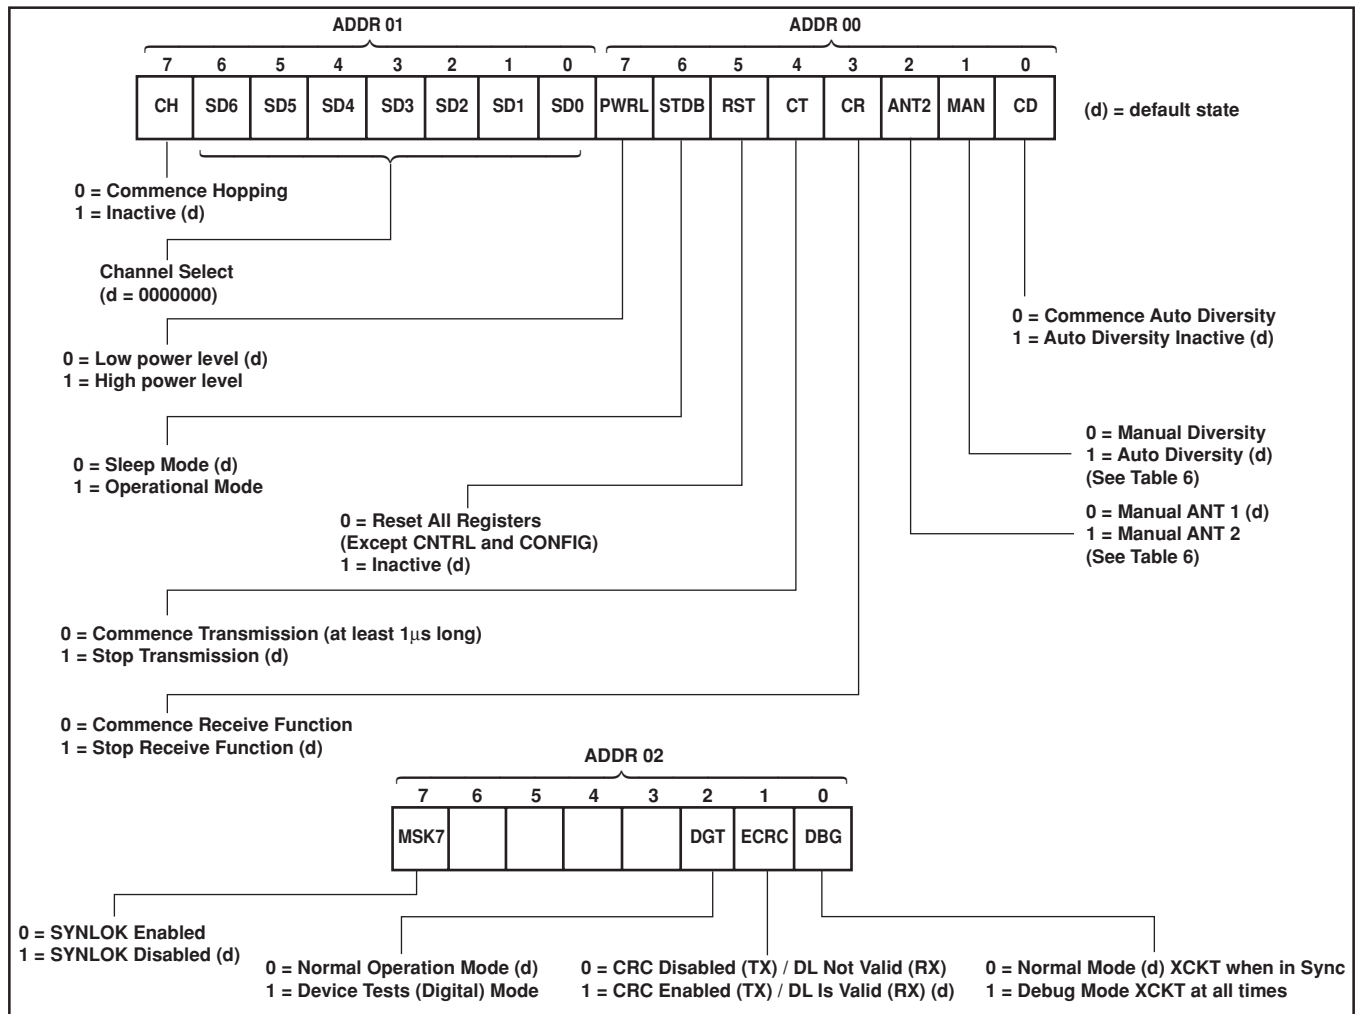
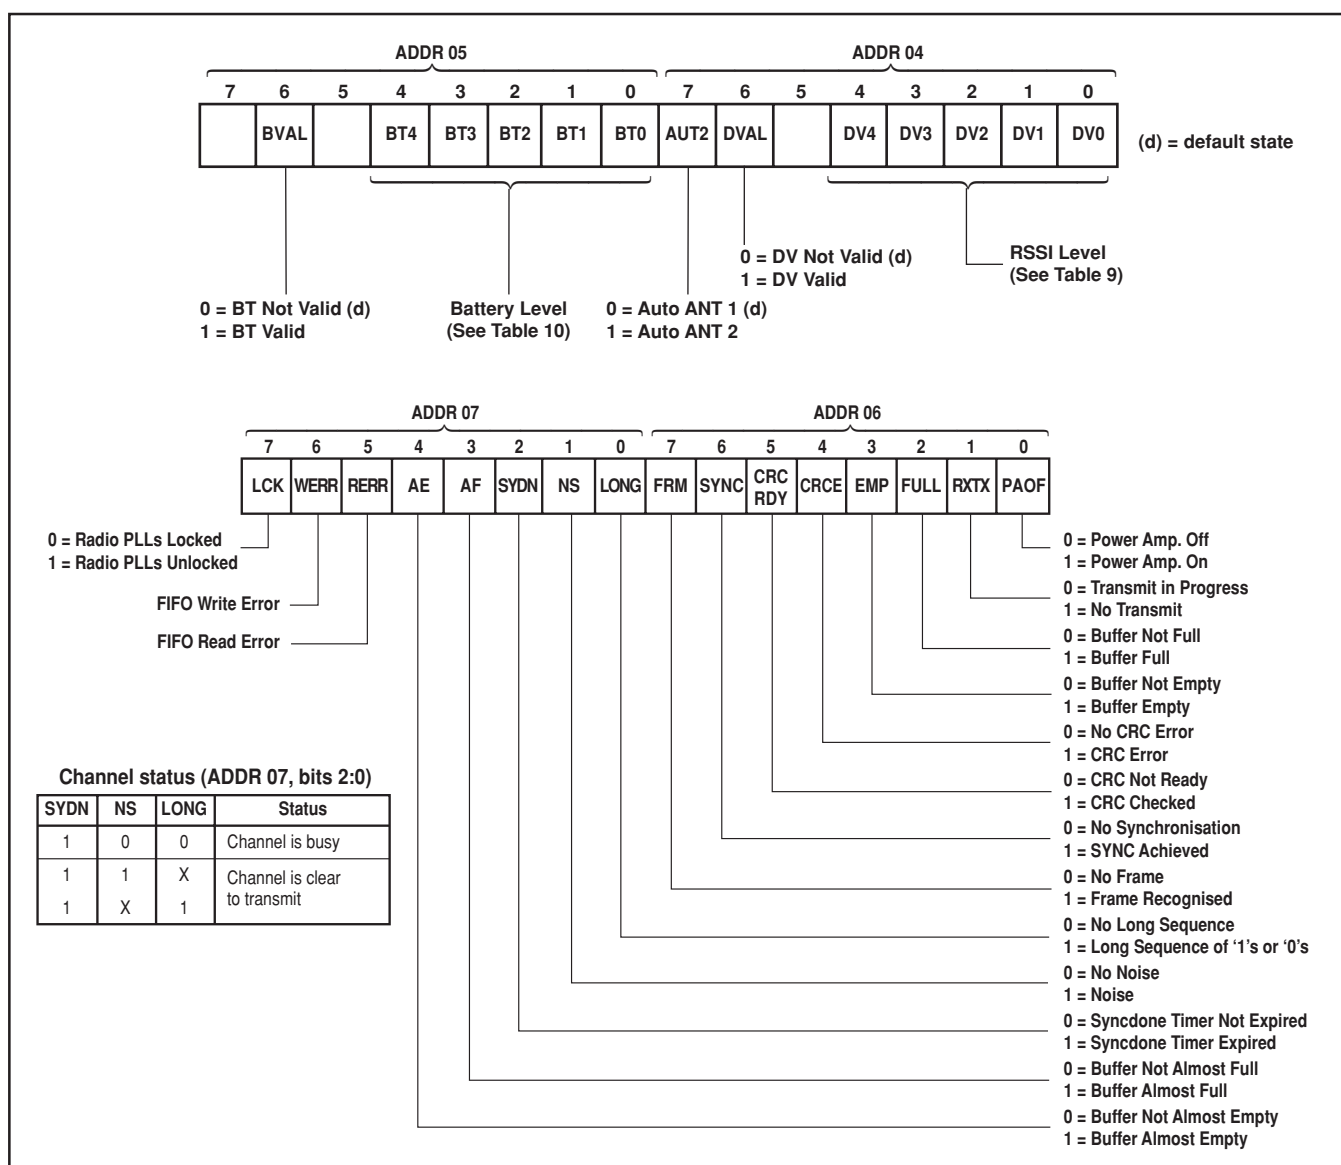
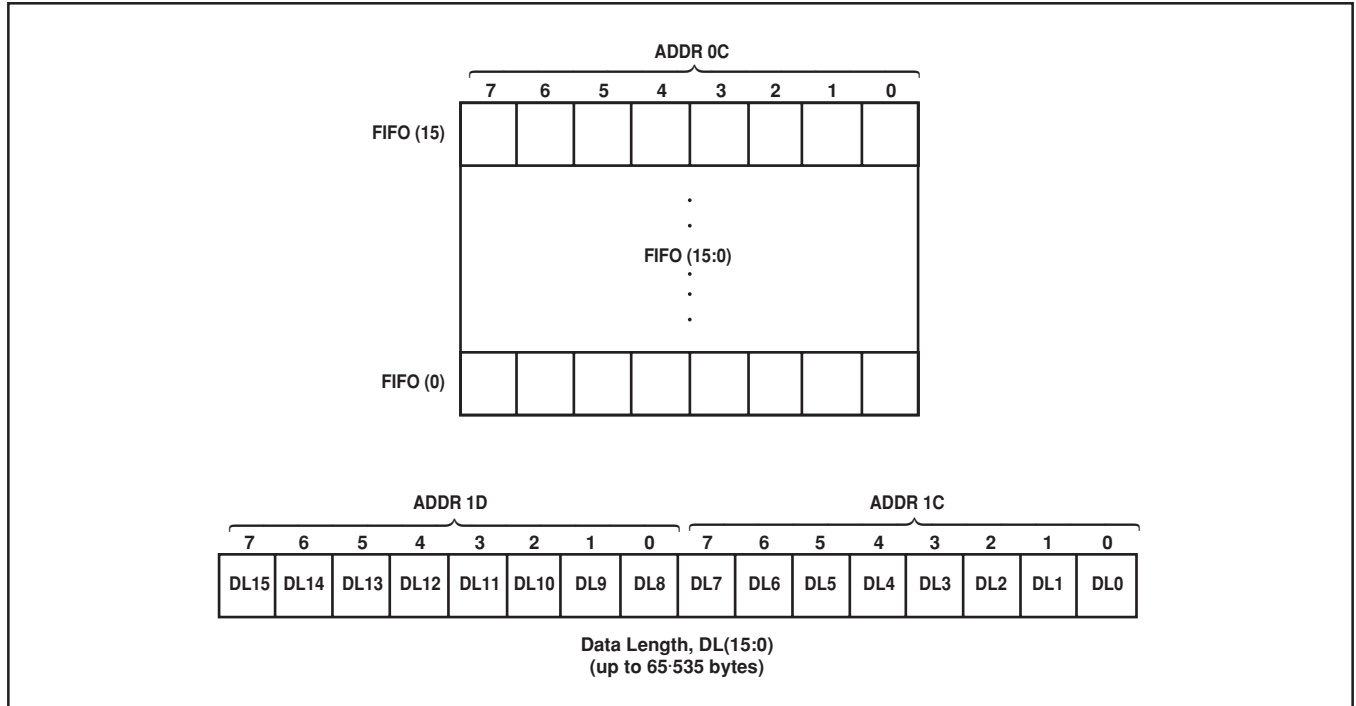
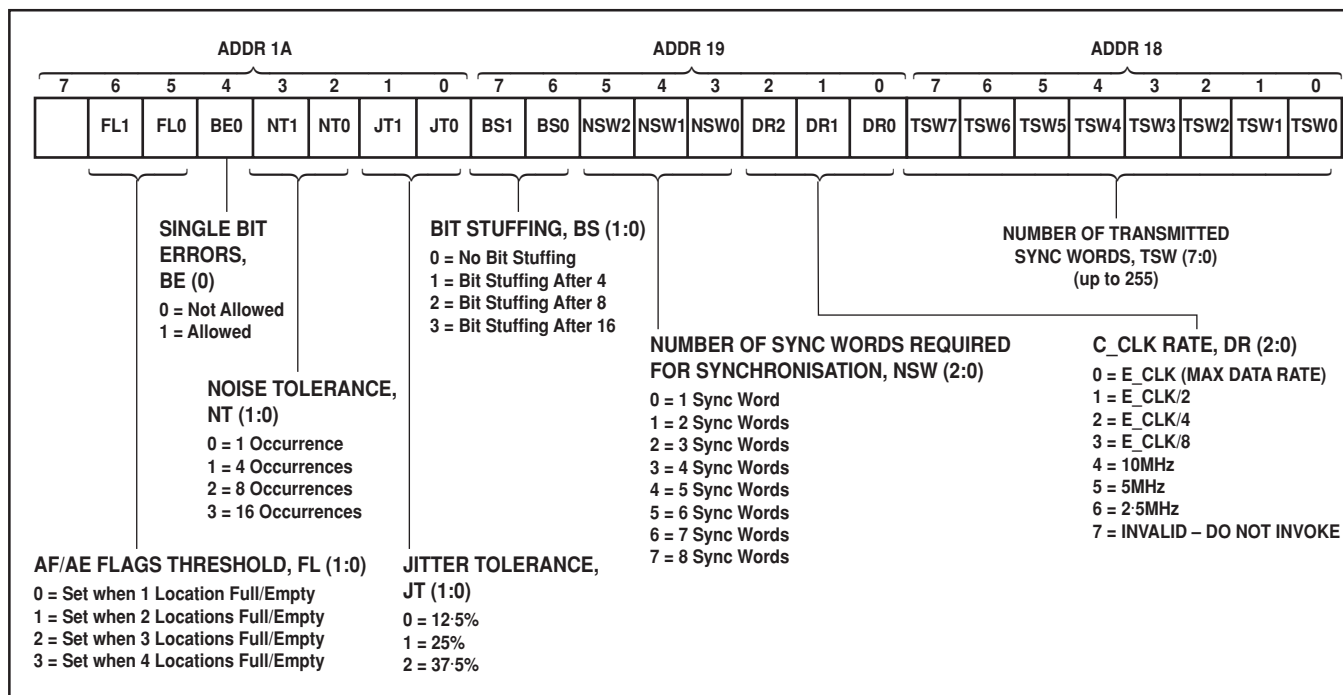

Fig. 5 Control registers (write only)
Fig. 6 Status registers (read only)
Fig. 7 Data register (FIFO) and data length registers (read/write)
Fig. 9 Configuration registers ADDR 18, ADDR 19 and ADDR 1A
The Controller uses the control registers to initiate a particular WL100 function. The bit definitions for the WL100 control registers are shown in Fig. 5.
The status registers are used to inform the Controller about the WL100 and DE6003 status. Fig. 6 shows the bit definitions for the WL100 status registers. The Controller makes the decision about a channel status according to the table in Fig. 6.
Fig. 7 shows the 16×8 receive/transmit FIFO and the data length register. The FIFO buffers the data going to/coming from the Controller and provides an uninterrupted data flow between the WL100 and DE6003 at different data rates and system clock speeds. The data length register is used for the CRC calculations during data receive.
The Controller is responsible for updating the frequency control register (Fig.5, ADDR 01), maintaining minimum time between consecutive transmissions, maximum continuous transmit time, radio standby to transmit time, frequency hopping time for transmit and for receive and timely loading of the data length register (Fig. 7, ADDR 1C and 1D) for the CRC function.
To hop to a new frequency, the CH bit (Fig. 5, ADDR 01, bit 7) has to be set to 0. As a result, a negative LOADB pulse is generated and will load the frequency data SD (0:6) (Fig. 5, ADDR 01, bits 0 to 6) into the DE6003. The Controller does not need to reset the CH bit as the WL100 carries this out as part of the channel select sequence.
To start data transfer, the Controller must set the CT bit to 0 (Fig.5, ADDR 00, bit 4). When all transmit data has been read by the WL100, the CT bit must be reset to 1.
The Bit Stuffing logic examines the data stream to the radio and inserts an altered polarity bit relative to the last bit in a selected bit group. A number of bits in a group can be programmed (see Fig. 9, ADDR 19, bits 6 and 7). The DE6003 requires at least one transition after every 16 bit times at 625kb/s data rate to assure adequate bit error rate performance. Thus, to break long sequences of ones or zeros at 312kb/s, bit stuffing after
The FIFO Control and Flag logic controls data flow through the FIFO. Almost Full (AF) and Almost Empty (AE) flags (Fig. 6, ADDR 07, bits 3 and 4) are programmable by FL 0 and FL1 (Fig. 9, ADDR 1A, bits 5 and 6) and can be monitored by the Controller as well as Read and Write error indication bits (Fig. 6, ADDR 07, bits 5 and 6). A Read error is caused by attempting to read from the FIFO when it is empty; a Write error is caused by attempting to write to the FIFO when it is full.
Full and Empty flags are also provided (Fig. 6, ADDR 06, bits 2 and 3). All bits are set on the negative edge of the C\_CLK clock.
The WL100 performs this optional function if instructed to do so by the Controller (see Fig. 5, ADDR 02, bit 1). CRC is generated according to IEEE-802 standard 32-bit AUTODIN-II polynomial.
During transmit the WL100 does not need to know the user data byte count and will automatically append CRC when the CT bit (Fig. 5, ADDR 00, bit 4) is high and the FIFO becomes empty.
During receive the Controller has to provide the WL100 with the data length information (Fig. 7, ADDR 1C and ADDR 1D) some time before the end of a frame to let the WL100 know when to check CRC.
The Clock Recovery and CCA logic recovers the data clock XCKT from the RXD data stream, provides recovered clock to the Data Recovery logic, and determines if the channel is busy or free to transmit. The WL100 starts recovering clock each time the CR bit (Fig. 5, ADDR 00, bit 3) is set low by the Controller. It must stay low for the whole time of CCA or data receive function.
After the time limit for the synchronisation has expired, the syncdone (SYDN) bit is set (Fig. 6, ADDR 07, bit 2) and interrupt to the controller is generated. At this time the Controller can make a decision about the channel status by examining noise (NS) and long sequence (LONG) bits (Fig. 6, ADDR 07, bits 1 and 0).
Once the sync sequence has been detected, the SYNC bit (see Fig. 6, ADDR 06, bit 6) goes high and remains high until the end of the data reception. The FRM bit (see Fig. 6, ADDR 06, bit 7) goes high when a frame delimiter has been detected and stays on until the end of data reception.
Radio Synthesiser Unlocked interrupt can be disabled by setting the MSK7 bit high (Fig. 5, ADDR 02, bit 7).
The Diversity Controller automatically selects the optimum antenna during receive operations. To start auto diversity, the Controller has to set the auto diversity bit (Fig. 5, ADDR 00, bit 0) low, which has to stay low for at least 1µs, when it can be switched back to high at any time before another diversity function is to be initiated. The circuit performs diversity by comparing the Receive Signal Strength Indication (RSSI) energy levels from both antennas and selecting the one which yields the higher level.
The Diversity Switch can also be controlled manually (Fig. 5, ADDR 00, bits 1 and 2). The RSSI level can be checked at any time by auto operation of the diversity (see Fig. 6, ADDR 04).
The Battery Monitor (input  $V_{BAT}$ ) allows relative estimation of the remaining operating time for the user in battery-powered applications. Both the Diversity Controller and the Battery Monitor use as an input a digital representation of analog RSSI and battery voltage levels from the 5-bit successive approximation ADC. The Battery Monitor status register value is updated whenever an auto diversity function is performed (Fig. 6, ADDR 05).
the WL100 (C10MHz clock from the CLK RCV or E\_CLK from an external clock oscillator). It supplies the system clock B\_CLK for the Controller, C\_CLK clock for the Clock Recovery and CCA logic, and CK400N and CK800N clock for the Diversity Controller and the Battery Monitor. Fig. 14 shows the details of the Clock Selector/Generator logic. For DR(2:0) bit settings see Fig. 9, ADDR 19, bits 2:0. Note that, for correct operation, the Receive/Transmit state machine, the Diversity Controller and the Battery Monitor require 10MHz clock. So even if an external oscillator with a clock rate other than 10MHz is used, the low level 10MHz CLK from the DE6003 is still required. When the STDB bit (ADDR 00, bit 6) is reset to '0', all WL100 clocks are disabled except for the control registers and configuration registers clocks; B\_CLK clock output also remains active.